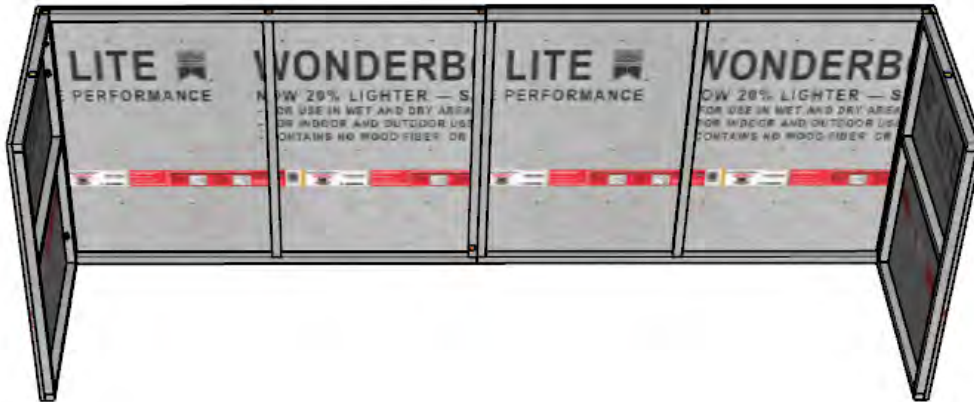

Figure 6
- Slide module 2 back and side together with module 1 back and side as shown in figure 6